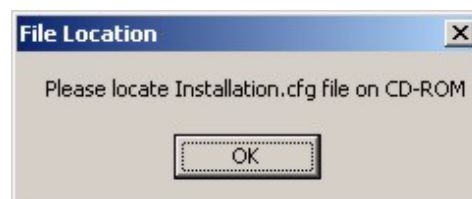

Figure 72 - Communicator Software Installation - File Location
- 2.15 Click **Yes** to start copying the additional files, and then the Communicator program will be started automatically. The **File Location** dialog box is then displayed (refer to Figure 72).